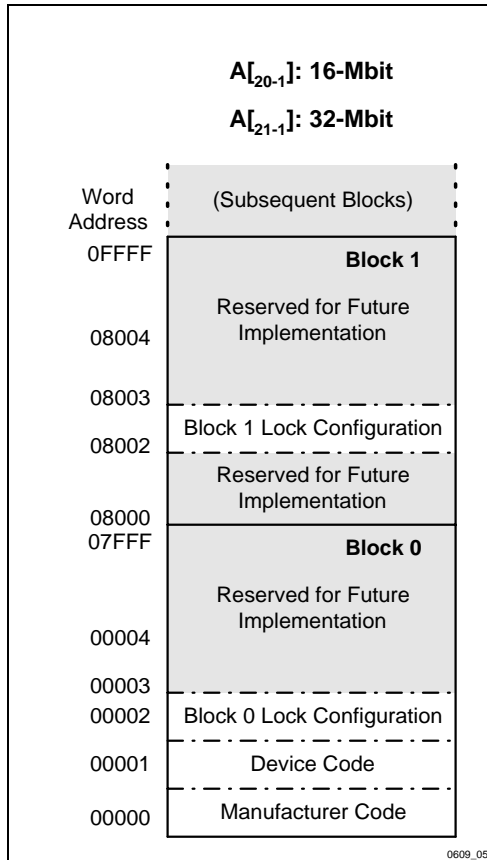

Figure 5. Device Identifier Code Memory Map
-002	<p>Added commercial temperature information throughout the document.  Updated address in Figure 5.  Added descriptive information for CFI query to Section 4.2.5, System Interface Information  Updated addresses and added descriptive information in Table 9 and Table 10.  Corrected documentation errors in Table 15 and Table 16.  Updated Figure 6. Modified decision diamond for checking counter.  Corrected documentation errors in Figure 11 and Figure 12.  Updated Table 19 to include commercial and extended temperature range specifications.  Updated note 4 in Table 19 for clarification.  Updated Table 20 to show 16 Mb/32 Mb specifications more clear and corrected documentation error.  Corrected documentation error in Figure 17 and Table 23.  Updated package designators and order codes in Appendix A.</p>
The read-identifier codes operation outputs the manufacturer code, device code, and block lock configuration codes for each block configuration (see Figure 5). Using the manufacturer and device codes, the system software can automatically match the device with its proper algorithms. The block-lock configuration codes identify each block's lock-bit setting.